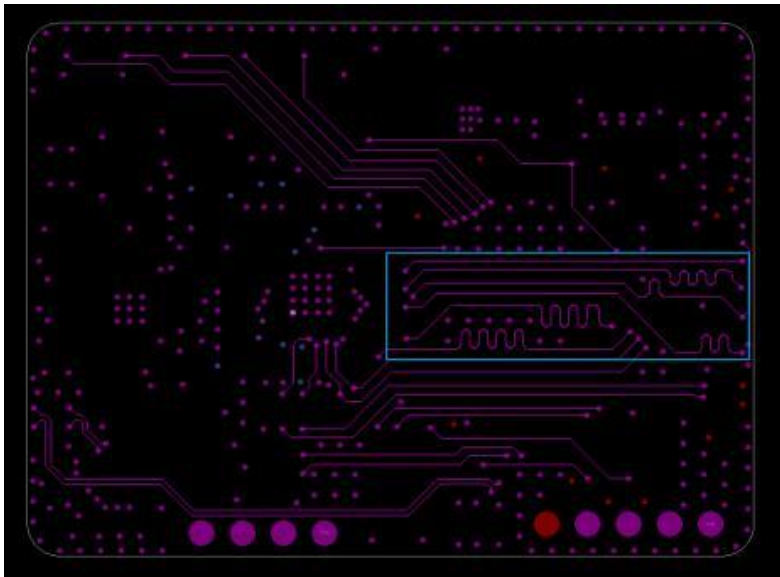

Figure 5-4 Interface routing layout reference design
2. Data output bus SPI, impedance recommended 50 Ω , and require matched length routing, as shown in the blue box in Figure 5-4.